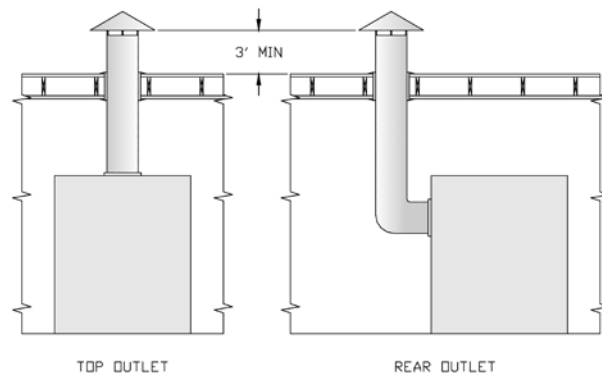
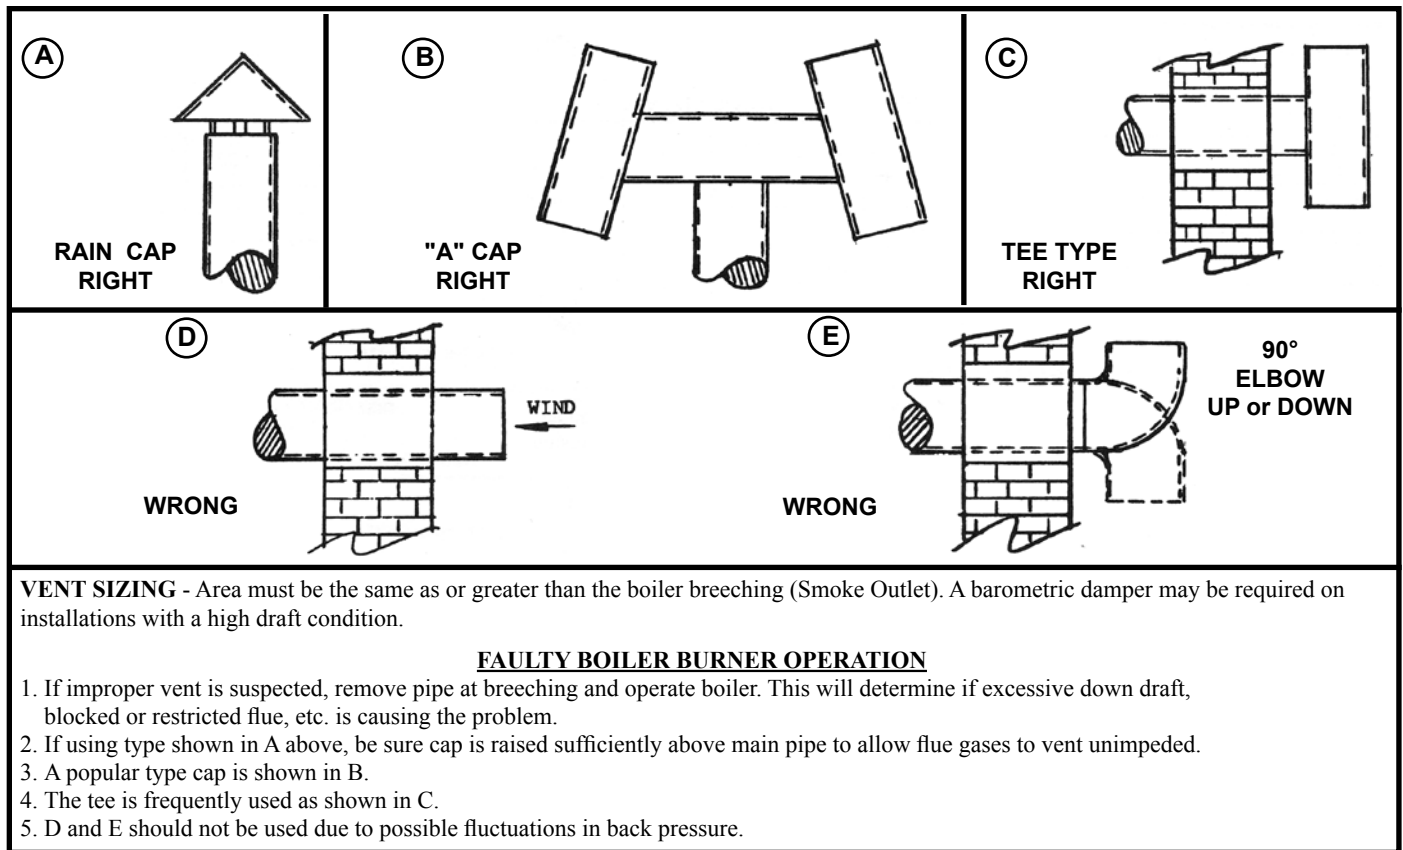

Figure 3a: Typical Arrangement For Stub Vent
Figure 3b: Vents — Faults & Suggestions
The V11H Series boiler is designed for forced draft firing and may be used with a conventional natural draft stack (15' minimum height) or a stub vent, sometimes called a diesel stack (see Figure 3a). See Table I for the proper vent outlet size. For low silhouette vent terminations, see Figure 3b. Draft controls are not normally required, although they may be used on installations where a natural draft stack is used or on multiple boiler installations with a common stack. The boiler is provided with a breeching damper, which should be adjusted to maintain a positive pressure of 0.1" W.C. in the vent connector box during burner high fire operation (see breeching pressure sensing port in Figure 1).
If the venting system is designed for positive or forced draft venting, the boiler, vent connector and stack will operate under positive pressure. Gas tight vent systems designed for pressure systems must be used to prevent flue by-product leakage. The vent height is usually limited to prevent negative draft, typically three (3) feet above the roof line (see Figure 3a). The damper shall be adjusted to maintain a positive pressure of 0.1" W.C. in the vent connector box during burner high fire operation (see breeching pressure sensing port in Figure 1).